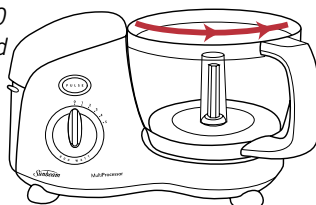

Fig 3
3. To lock the bowl into position for use, turn the handle to the right, as far as it will go, see Figure 3.